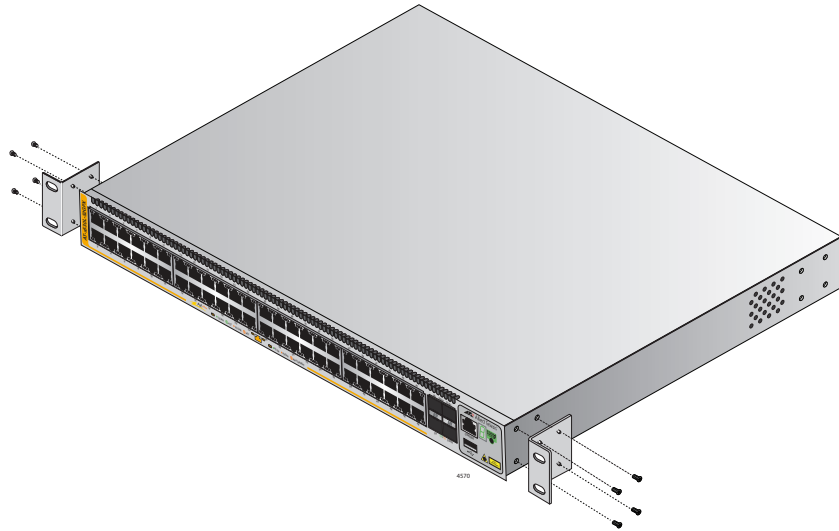

Figure 53. Example of Attaching the Brackets to the Switch
2. Attach the two brackets to the sides of the switch in the selected position, using the eight M4x6mm screws supplied with the unit. The illustration in Figure 53 shows the installation of the brackets such that the front panel of the switch is even with the front of the equipment rack.